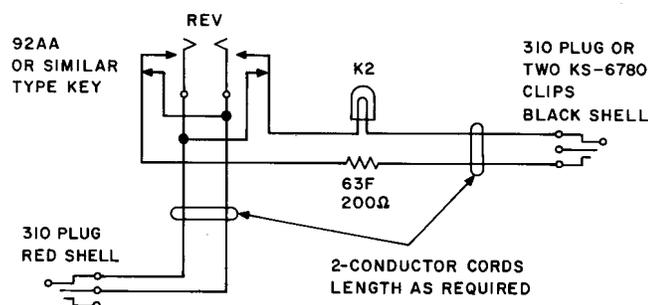

Fig. 1—Test Cord
1.10 Test B requires the use of a special test cord when using test set SD-90469-01 or SD-90469-02 not equipped with a CL jack. The special test cord is to be made up locally as shown in Fig. 1.
2.06 Special test cord, for use with test set SD-90469-01 or SD-90469-02 not equipped with a CL jack, or when test set is not located near coin box trunk, made up locally as shown in Fig. 1. The physical arrangement of the lamp, key, and resistor can be determined locally. In offices where a battery and ground jack is not available, two KS-6780 connecting clips and two 108 cord tips should be used in place of the 310 plug with the black shell.